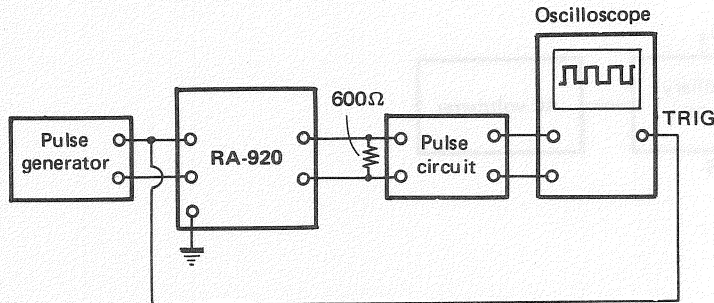

Fig. 4
2. Measurement of pulse circuit threshold level (Fig. 4)